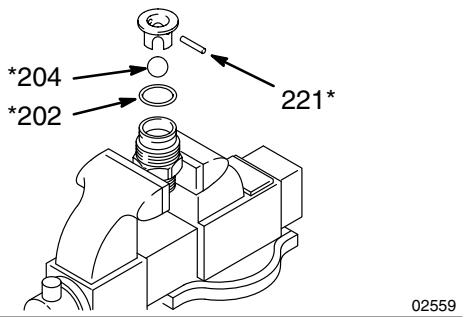

Fig. 17 _____ 02559
2. Disassemble the intake valve. Use a pick to remove the old gasket (202). Clean and inspect the parts. See Fig. 17.
3. Reassemble the intake valve using a new gasket (202*), ball (204*) and pin (221*). See Fig. 17.